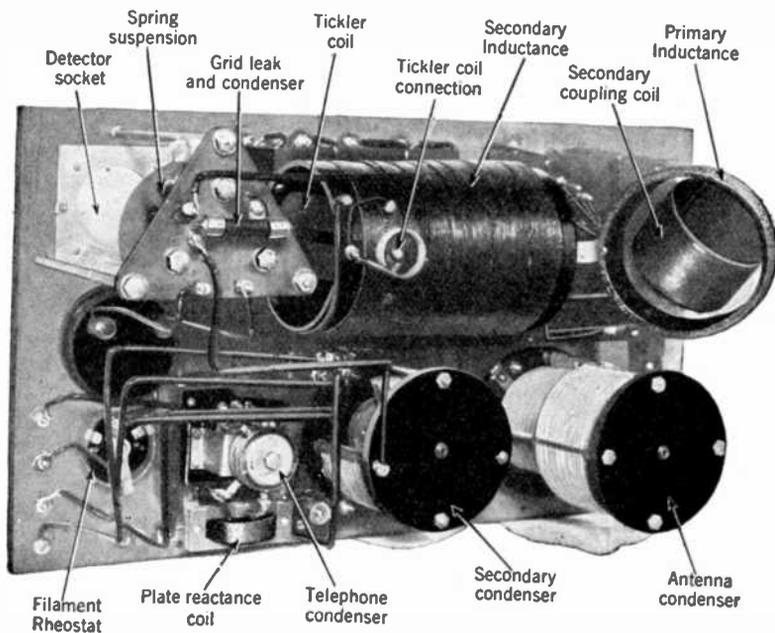

FIG. 3.—Rear view of the IP-501 receiver.
**Practical Operation and Description of the IP-501 Receiver.**—A rear view of the IP-501 is shown in Figure 3. To place the receiver in a condition for the reception of an incoming signal wave the handle of the aerial change-over switch (86) is thrown upward to the receiving position, which allows the signal oscillations to flow from the antenna through contact *B* to primary inductance switch (90), through the turns selected in the inductance (89), through the antenna series tuning condenser (92), and thence through the ground conductor to ground (93). The winding marked (98) is part of the